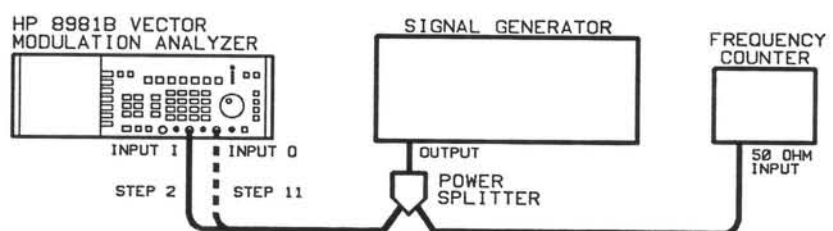

Figure 4-9. Delta Time Accuracy Test Setup
2. Connect the equipment as shown in Figure 4-9: